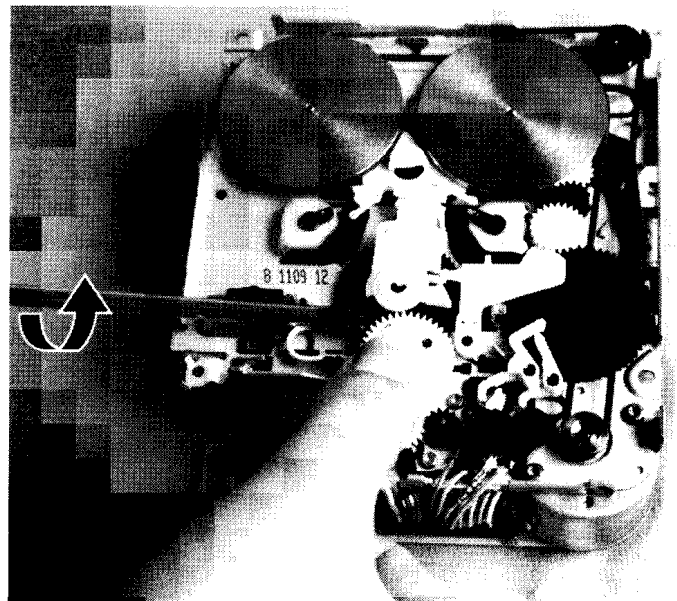

Figure 17
6.16 Servo drive gear cluster pos. 15
- *Note:* refer to figure 17.
- Carefully lift the damping gear pos. 16 / 17 / 92 by a screwdriver as shown in the figure and remove it.